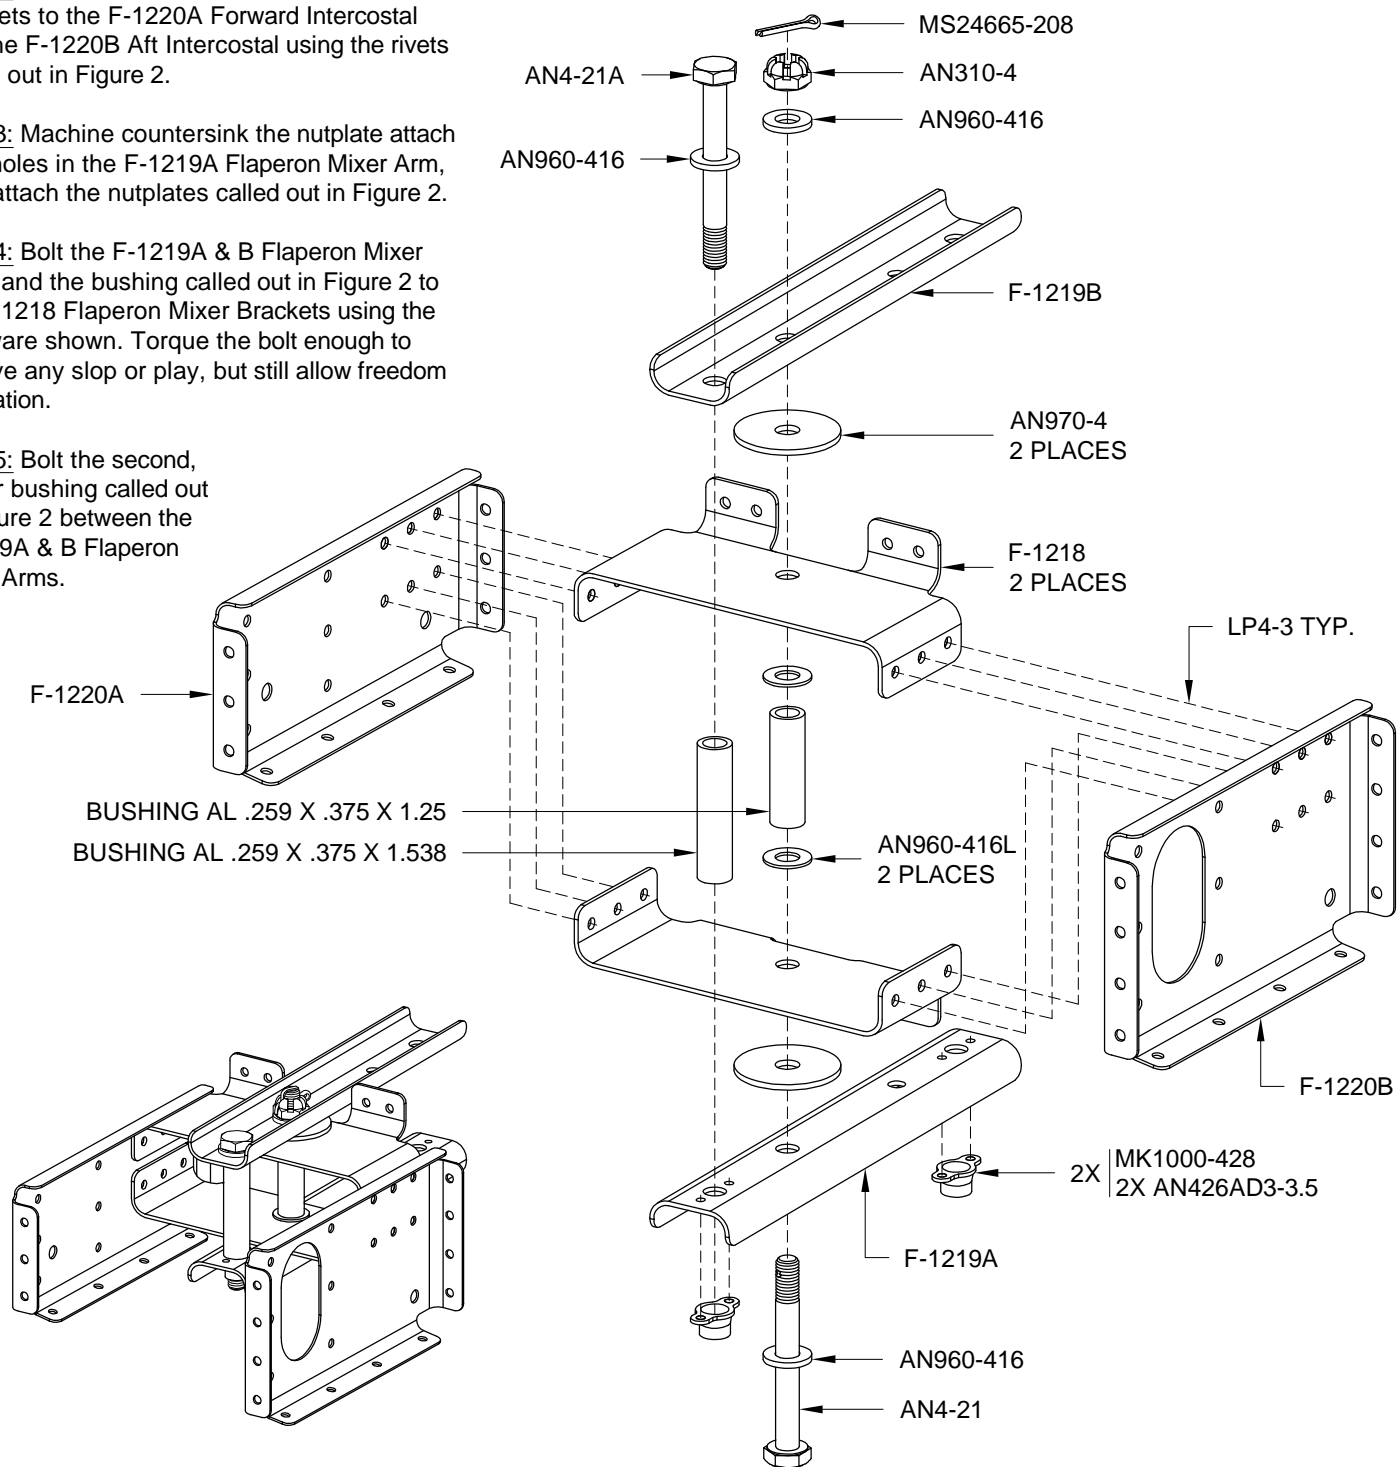

FIGURE 2: FLAPERON MIXER ARM ASSEMBLY
Step 2: Rivet the two F-1218 Flaperon Mixer Brackets to the F-1220A Forward Intercoastal and the F-1220B Aft Intercoastal using the rivets called out in Figure 2.
Step 3: Machine countersink the nutplate attach rivet holes in the F-1219A Flaperon Mixer Arm, then attach the nutplates called out in Figure 2.
Step 4: Bolt the F-1219A & B Flaperon Mixer Arms and the bushing called out in Figure 2 to the F-1218 Flaperon Mixer Brackets using the hardware shown. Torque the bolt enough to remove any slop or play, but still allow freedom of rotation.
Step 5: Bolt the second, longer bushing called out in Figure 2 between the F-1219A & B Flaperon Mixer Arms.